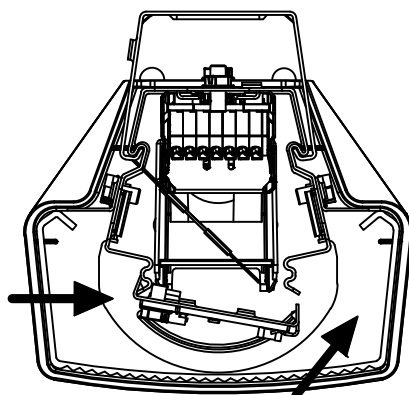

FIGURE 2: BOARD CARRIER
- 6) Snap on LED board carrier by aligning screws in LED board carrier with notches in housing. Then pivot board carrier until opposite side snaps in as shown in Fig 2.